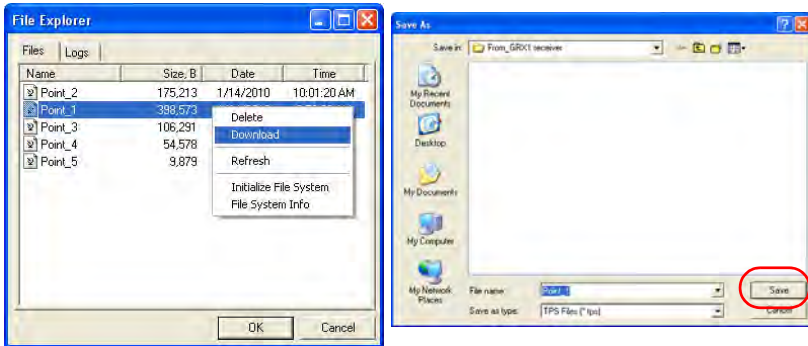

Figure 5-7. Download a File
and store the file (Figure 5-7). Click the **Save** button to download and save the file.
- To save a file to the computer, highlight the desired file, right click and select **Download** from the pop up menu. In the **Save As** dialog box navigate to or create a folder in which to download and store the file (Figure 5-7). Click the **Save** button to download and save the file.